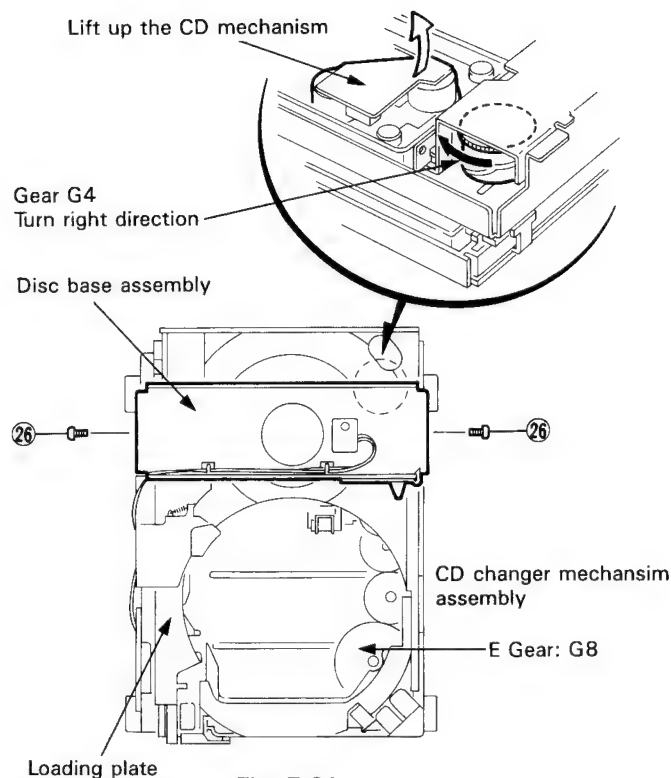
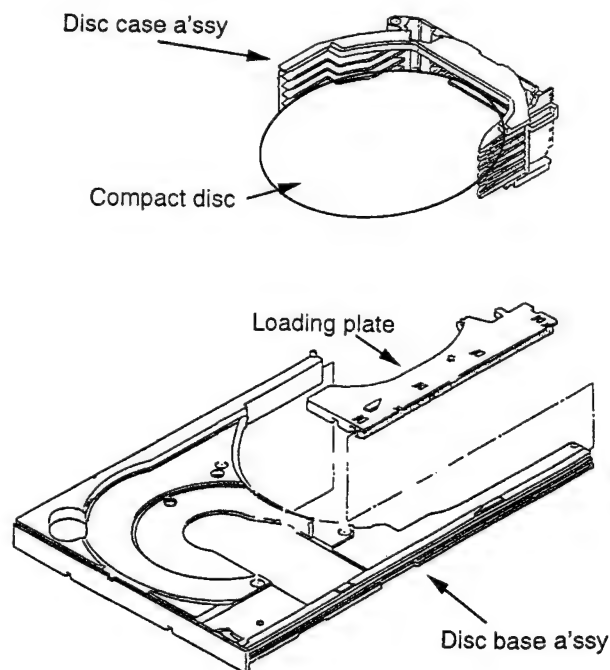

Fig. 7-21
Fig. 7-22
### ■ Method of removing the clamber base assembly (Refer to Fig. 7-21)
- 2-1. Method of ejecting the compact disc on the disc base ass'y (Refer to Fig. 7-21).
- (1) Turn the gear G4 clockwise and lower the CD mechanism.
- (2) When the loading plate is located at the rearmost position, move the plate to the front panel side (At this time, the compact disc will be set on the disc base ass'y by the loading plate).
- (3) By moving the disc base ass'y to the front panel side, take out the compact disc.
- 2-2. Method of ejecting the compact disc left on the disc case ass'y (Refer to Fig. 7-22)
- (1) Move the loading plate to the rearmost position.
- (2) Turn the E gear G8 counterclockwise, and move up the disc case ass'y into which any compact disc has been loaded.
- (3) While turning the E gear G8, align the first compact disc (the lowermost compact disc on the disc case ass'y) to its loading position to the loading plate.
- (4) After the loading plate onto which the first compact disc is loaded has been moved to the front panel side, pull out the disc base ass'y from the front panel side and take out the compact disc.
- (5) Eject the second through sixth compact discs as well similarly according to the procedures in Items 1 through 4. Whenever the second and subsequent discs are to be ejected, however, align the compact disc to be ejected to the height of the loading plate.